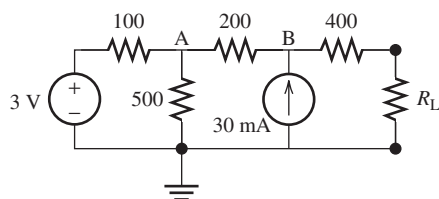

FIGURE P3.66 Circuit for Problem 3.66.
- 3.66** (H) If $R_L = 0$, which source in Figure P3.66 contributes the most to the power dissipated in the 500-Ω resistor? Which contributes the least? What is the power dissipated in the 500-Ω resistor? Does it equal the sum of power dissipation contributed by each source?